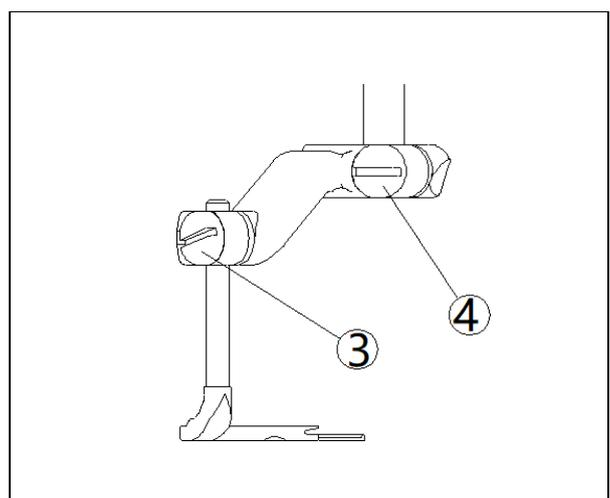

Figure 7-10
- (1) Loosen the upper feed needle adjustment screw③ and fixing screw④. (Figure 7-10)